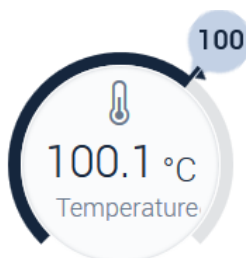

Fig. 2-4 Display with nominal bubble value
- ✓ In the control variables display the nominal value is displayed on an ongoing basis → Fig. 2-4 »Display with nominal bubble value« (page 14).